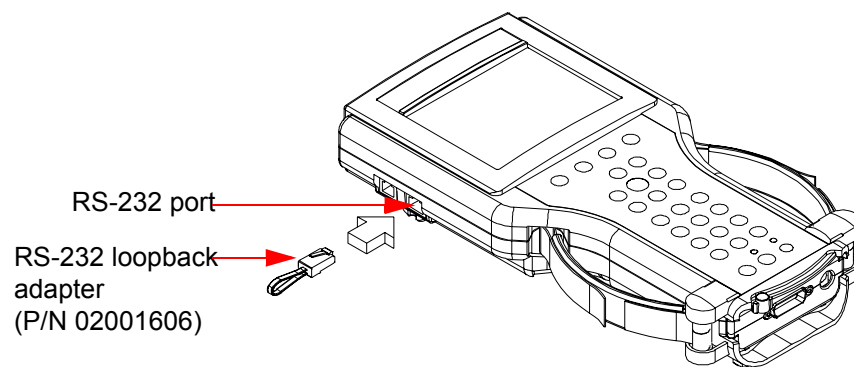

FIGURE 3-2. Connection of RS-232 Loopback Adapter to Tech 2 RS-232 Port
1. Remove the RS-232 loopback adapter (P/N 02001606) from the storage case (P/N 02002971). Plug it into the RS-232 port (Figure 3-2).